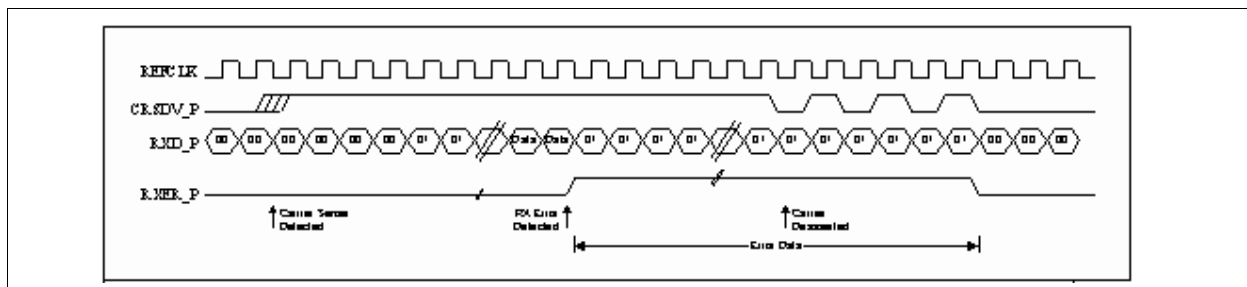

Figure 8 RMI Reception with Symbol Error
A receive symbol error event is shown in **Figure 8**. The packet with the symbol error is treated as if it were a valid packet with the exception that all di-bits are substituted with the (01) pattern.